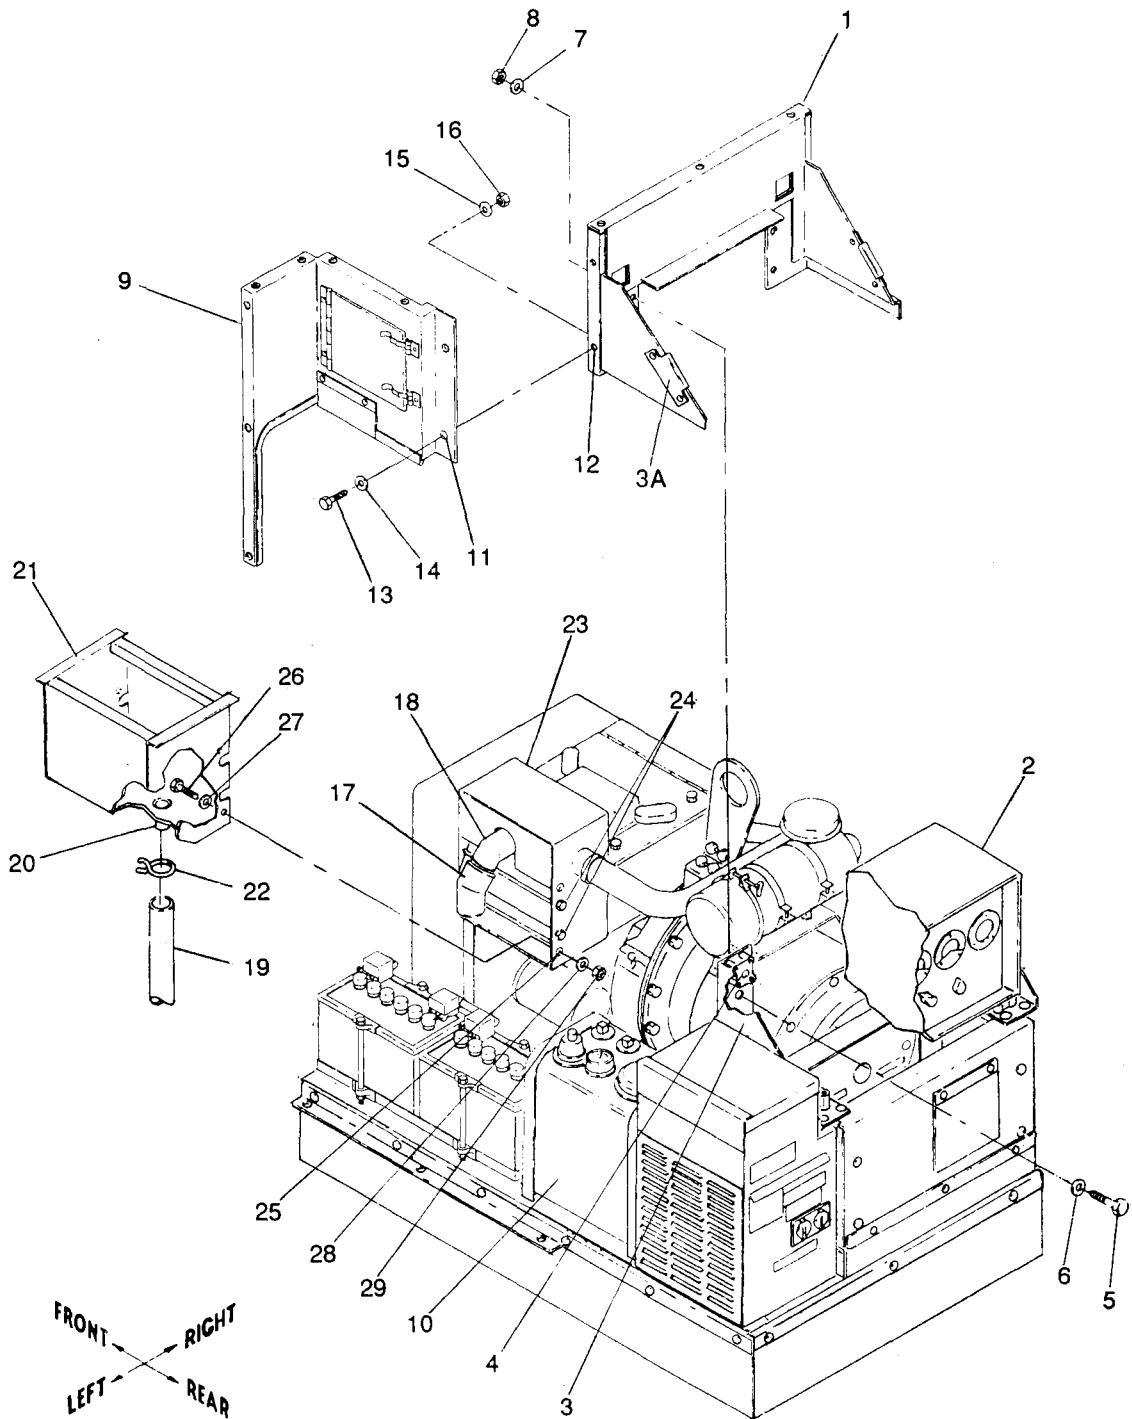

Figure 10-3. Installation of Rear and Side Closure and Exhaust Plenum Assemblies
(2) Refer to figure 10-3 and locate rear closure assembly (1) behind mounting brackets (3). Seat clips (3A) of rear closure assembly (1) over mounting brackets (3), so that rear closure assembly (1) is positioned over vibration mount hardware. When positioned correctly, the rear closure assembly (1) is 1/4 inch higher than top of control cubicle (2). Using rear closure assembly (1) as template, mark and drill four 5/16 inch holes in mounting brackets (3).
(3) Cut a 23 in. length and a 14 in. length of adhesive backed teflon tape (listed in Table 10-1, item 5). Apply adhesive backed teflon tape to a clean top edge (edge with three holes) and right edge (edge with two holes which will contact right panel assembly) of rear closure assembly (1). Use hand pressure to remove air bubbles. Clear tape from holes.
(4) Install rear closure assembly (1) to control cubicle support (3) with four screws (5), eight washers (6 and 7), and four locknuts (8) (as listed in Table 10-1, item 5).
(5) Torque screws (5) to 16 ±2 ft-lbs dry.
(6) Refer to Operator and Organizational Maintenance Manual, paragraph 3-18, and replace air cleaner assembly removed in step e.(1).
(2) Refer to figure 10-3 and locate side closure assembly (9) over fuel tank (10). Align side closure assembly mounting holes (11) with rear closure assembly mounting holes (12).
(3) Install side closure assembly (9) to rear closure assembly (1) with two screws (13), four washers (14 and 15) and two locknuts (16) (as listed in Table 10-1, item 6)
(4) Torque screws (13) to 16  $\pm$ 2 ft-lbs dry.
(1) Refer to figure 10-3 and install exhaust elbow (17) (as listed in Table 10-1, item 7) to generator exhaust (18). Point elbow opening downward (exhaust down).
(2) Install hose (19) over sleeve (20) at bottom of exhaust plenum (21). Install clamp (22) over hose (19) and sleeve (20).
(3) Install exhaust plenum assembly (21) over exhaust shutter assembly (23) until rear upper channel of plenum is flush with exhaust shutter assembly (23). Screws (24) in exhaust shutter assembly (23) fit into plenum slots. (There is a 1-7/8" overlap.) Using exhaust plenum assembly (21) as template, mark mounting holes (25) and drill four 5/16 inch holes in exhaust shutter assembly (23).
(4) Install exhaust plenum assembly (21) to exhaust shutter assembly (23) with four screws (26), eight washers (27 and 28) and four locknuts (29) (listed in table 10-1, item 7.)
(5) Torque screws (26) to 16  $\pm$ 2 ft-lbs dry.
(6) Route drain hose (19) between batteries and engine block.